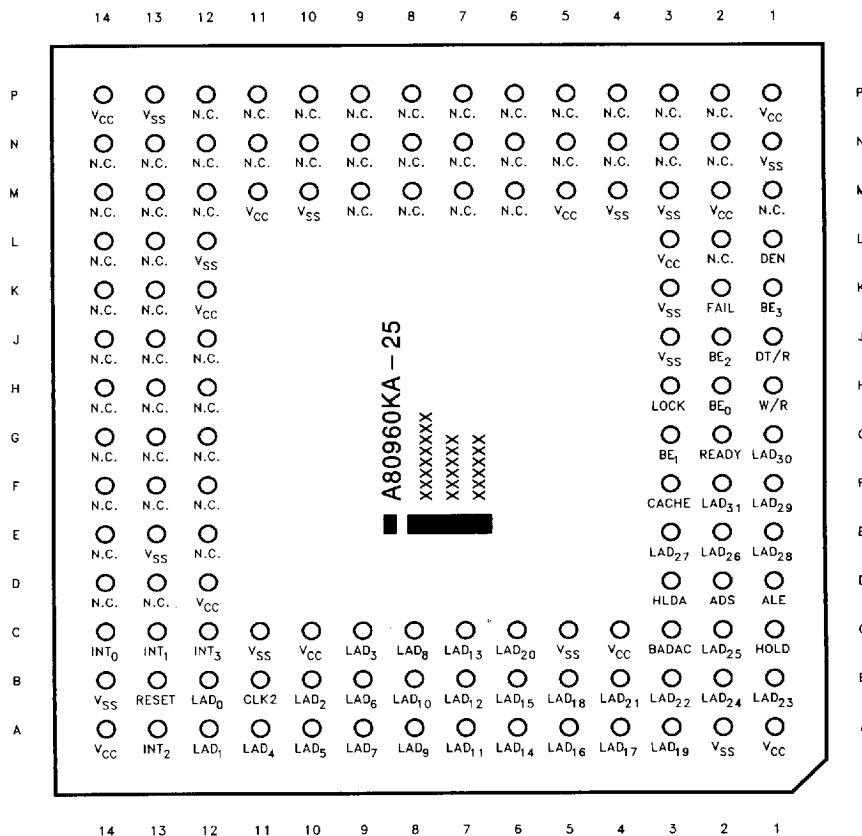
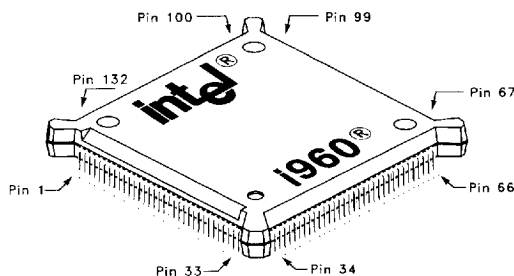

Figure 19. 80960KA PGA Pinout—View from Top (Pins Facing Down)
Figure 20. 80960KA 132-Lead Plastic Quad Flat-Pack (PQFP) Package
- 132-lead plastic quad flat pack (PQFP). This package uses fine-pitch gull wing leads arranged in a single row along the package perimeter with 0.025 inch (0.64 mm) spacing (see Figure 20).
The PGA and PQFP have different pin assignments. Figure 18 shows the view from the PGA bottom (pins facing up) and Figure 19 shows a view from the PGA top (pins facing down). Figure 20 shows the PQFP package; Figure 21 shows the PQFP pinout with signal names. Notice that the pins are numbered in order from 1 to 132 around the package perimeter. Table 9 and Table 10 list the function of each PGA pin; Table 11 and Table 12 list the function of each PQFP pin.